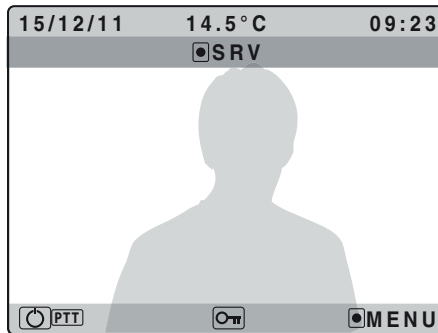

Fig.3c
- To enable the secondary service keep pressed the  button until the activation signals (call tone plus message) are received Fig.3c;